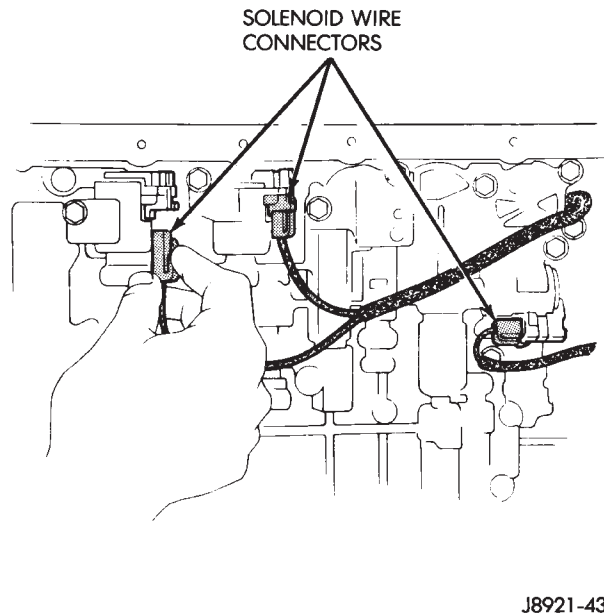
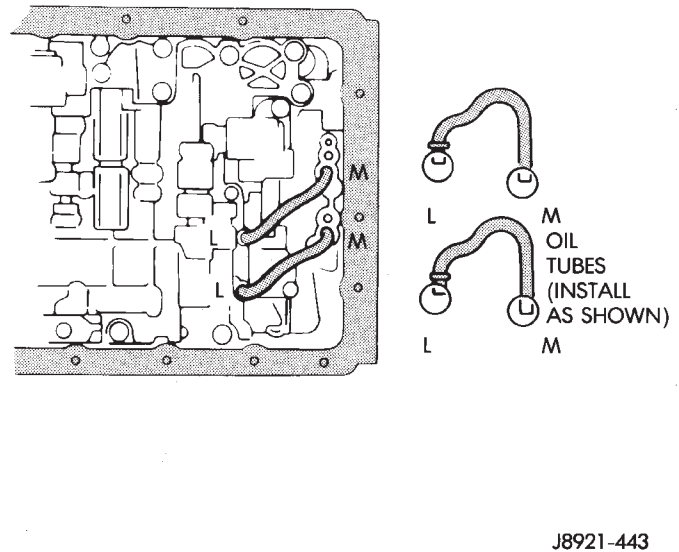

Fig. 177 Connecting Valve Body Solenoid Wires
Fig. 178 Installing Valve Body Oil Tubes
(85) Install and tighten valve body-to-case bolts to 10 N·m (7 ft. lbs.) torque.
(86) Connect valve body solenoid wires to solenoids (Fig. 177).
(87) Install new O-ring on solenoid harness adapter and secure adapter to case.
(88) Install valve body oil tubes (Fig. 178). Tap tubes into place with a plastic mallet. Be sure the flanged tube ends and straight tube ends are installed as shown.
(89) Install new gaskets on oil screen and install screen on valve body. Tighten screen bolts to 10 N·m (7 ft. lbs.) torque.
(90) Install magnet in oil pan. Be sure magnet does not interfere with valve body oil tubes.